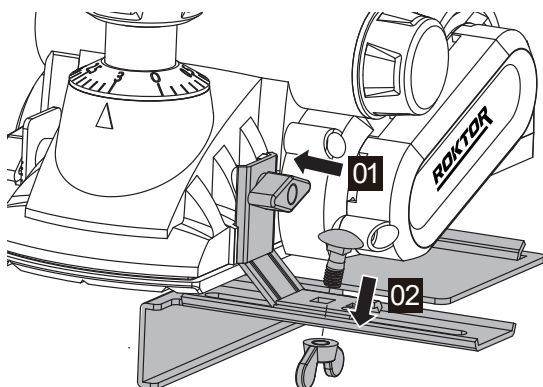

Figure 1
1. ASSEMBLING THE PARALLEL GUIDE (SEE FIG. 1 & 2)